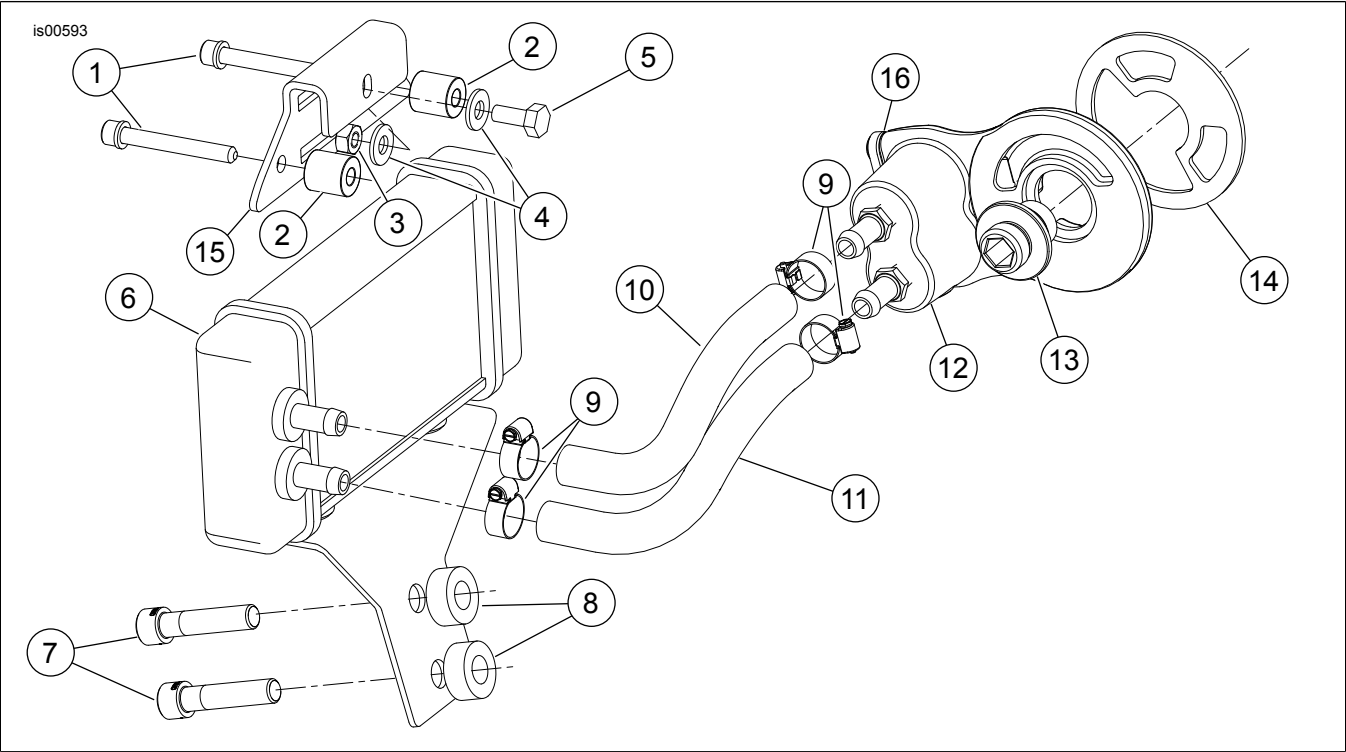

Figure 5. Service Parts for Dyna Oil Cooler Kit
See Figure 5 and Table 1.
13. See Figure 5. Obtain the bottom hose (11) and top hose (10) from kit. Follow the markings on hoses to connect onto the oil cooler and oil cooler adapter.
14. Fasten hoses to oil filter adapter and oil cooler with worm drive clamps (7). Tighten clamps to 0.9 N·m (8 **in-lbs**).